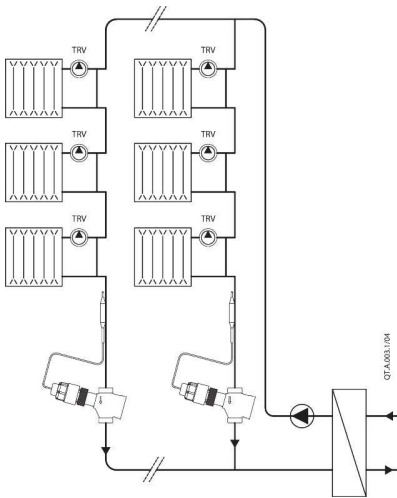

Fig. 1
- one-pipe vertical riser based heating system (Fig. 1)